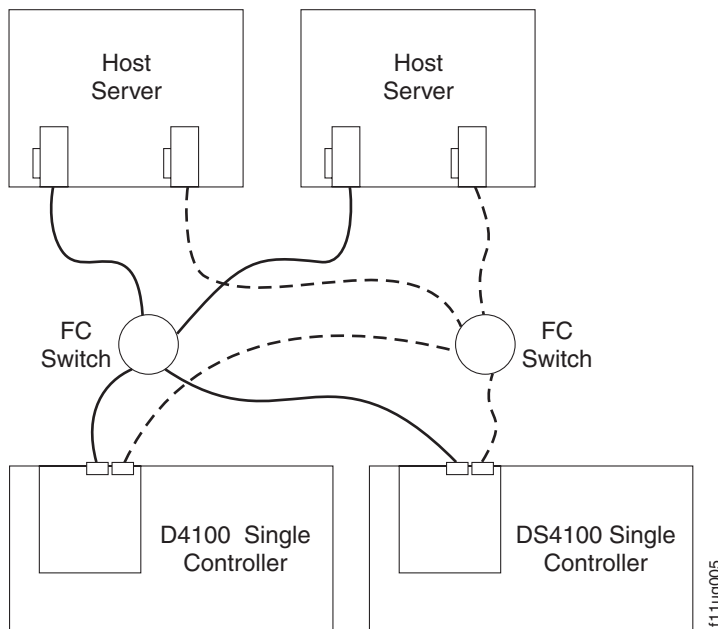

Figure 33. Example of a dual-server, single-SAN fabric configuration with two adapters on each server (single-controller storage server)
- Dual-server, single-SAN fabric configuration with two adapters on each server, as shown in Figure 33 on page 42